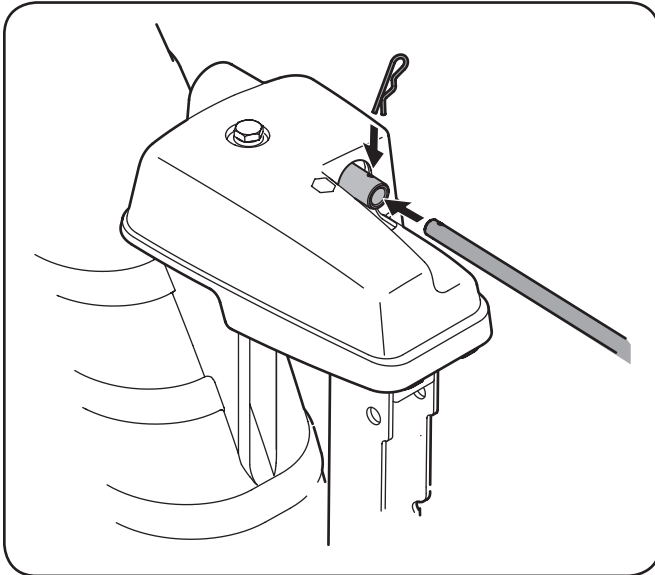

Figure 3-7
- Remove the cotter pin and insert the chute crank rod into the connector on the chute control assembly. See Fig. 3-7.